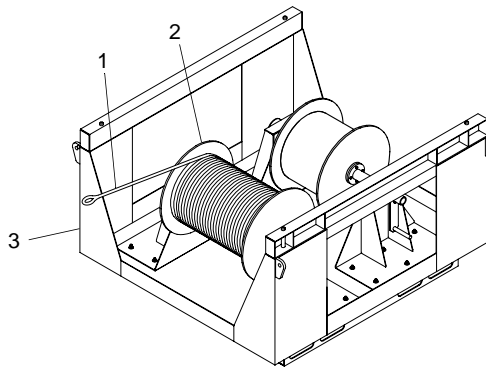
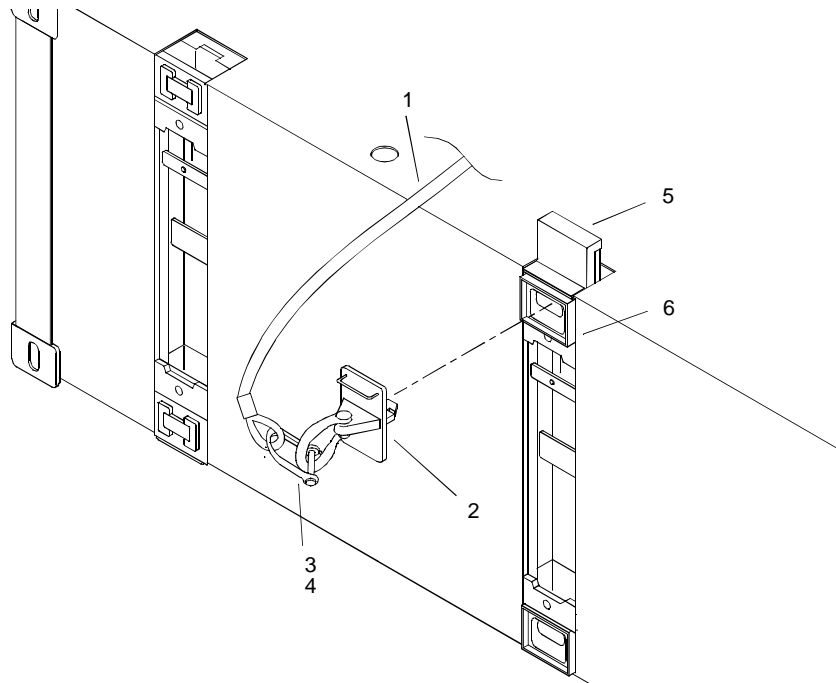

Figure 7. Mooring Cable Pallet
Figure 8. Onshore Mooring Leg Attachment
32. Using hand crank on spool (figure 7, item 2), unreel mooring cable (figure 7, item 1) from spool (figure 7, item 2) in mooring cable pallet (figure 7, item 3) and position on causeway, near mounting points.
1. Attach mooring cable (figure 7, item 1 and figure 8, item 1) to horizontal deadman padeye (figure 8, item 2) with 1 3/8 in. shackle (figure 8, item 3) and pin (figure 8, item 4).
2. Using crowbar, raise female guillotine (figure 8, item 5).
3. Install horizontal deadman padeye (figure 8, item 2) in female guillotine upper fitting (figure 8, item 6).
4. Using sledgehammer, drive down female guillotine (figure 8, item 5) to lock horizontal deadman padeye (figure 8, item 2).
5. Using assistant, pull mooring cables (figure 8, item 1) onto beach.
- For the two outer mooring legs, attach an additional 300 ft mooring cable to the end of mooring cable (figure 8, item 1) with a 1 3/8 in. shackle (figure 8, item 3) and pin (figure 8, item 4).